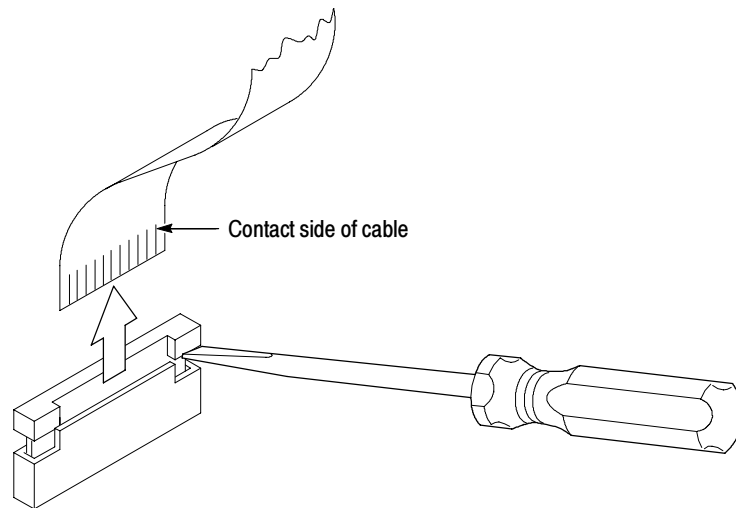

Figure 19: Opening the display cable connector
- c. Using the $\frac{1}{8}$ inch flat-bladed screwdriver, carefully open the display-cable connector as shown in Figure 19.
- b. Use the $\frac{1}{8}$ inch flat-bladed screwdriver to open the display cable connector on the main board and then disconnect the display cable. Refer to Figure 19 on page 80 if necessary.